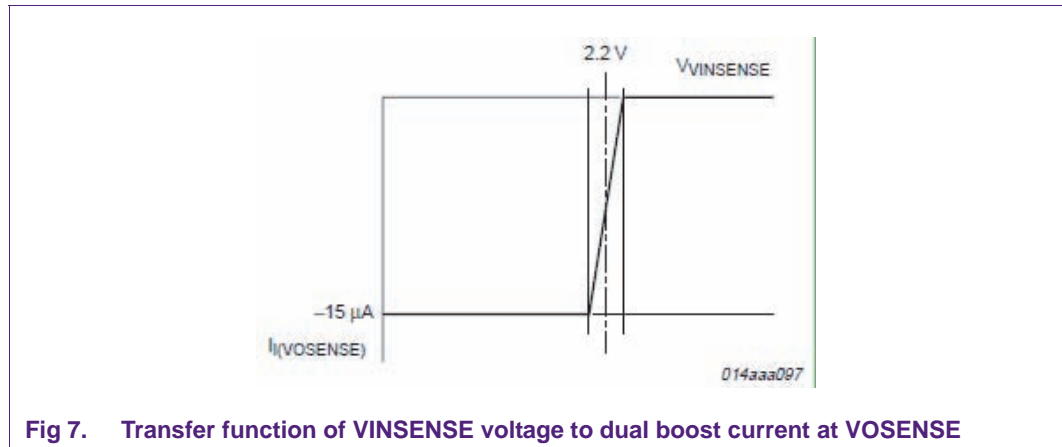

Fig 7. Transfer function of VINSENSE voltage to dual boost current at VOSENSE
The dual output voltage is controlled through an internal current source of 15 $\mu$ A at pin VOSENSE. As shown in Figure 7, the mains input voltage measured at pin VINSENSE is used to control the internal current source. This current-source in combination with the resistors at pin VOSENSE sets the lower PFC output voltage. At high mains, the current-source is switched off. Therefore, the maximum PFC output voltage is not effected by the accuracy of the current-source. In a typical adapter with a PFC output voltage of 385 V (DC) at high mains, the PFC output voltage will be 250 V (DC) at low mains. A voltage of 2.2 V at pin VINSENSE corresponds with a mains input voltage of approximately 180 V (AC). The small slope at the transfer function will ensure stable switch over of the PFC output voltage without hick-ups.